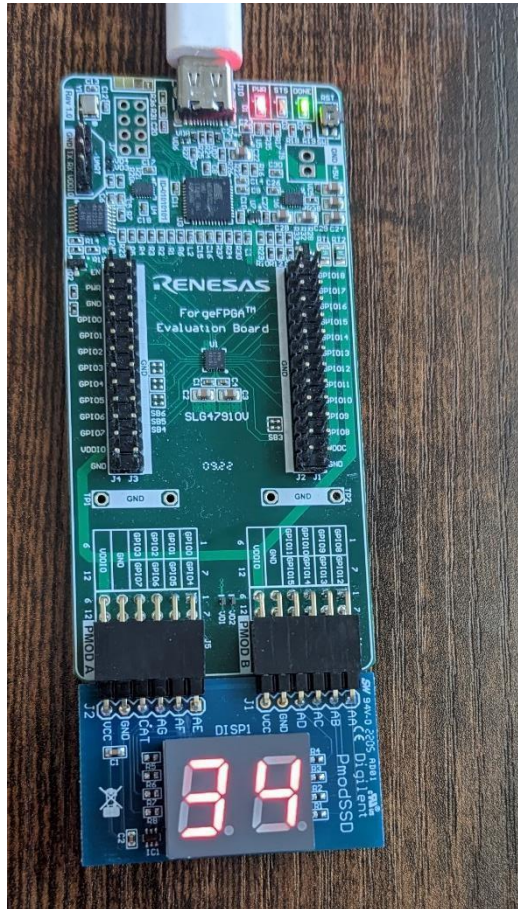

Figure 7: PmodSSD Countdown
9. Once the user clicks the emulation button on the software, the bitstream gets loaded on the SLG47910 part. You can now observe the countdown being reflected in the 2-digits of the PmodSSD 7-segment display (see Figure 7).